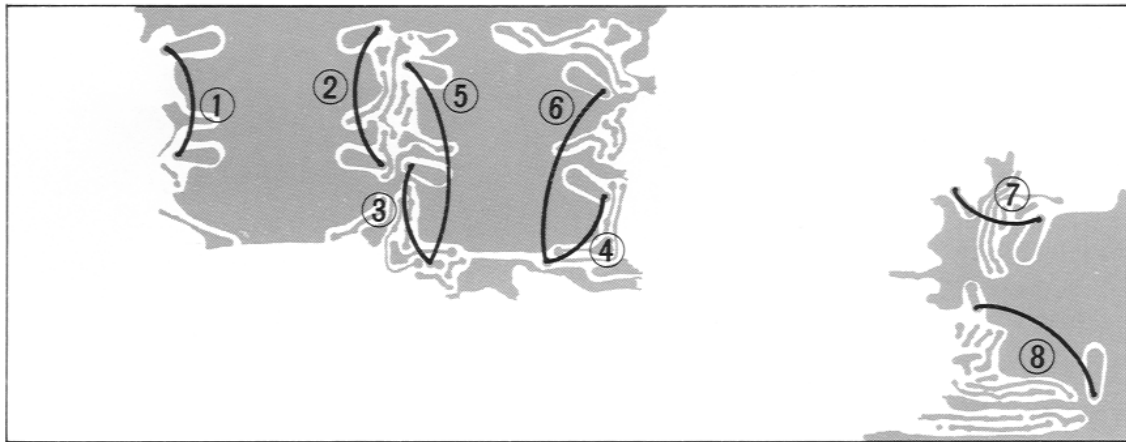

Figure 4
- Now referring to Table 1 and to Figure 4, locate and remove the jumper wire associated with each filter location into which a new filter was just installed. These jumpers are on the solder side of the board.